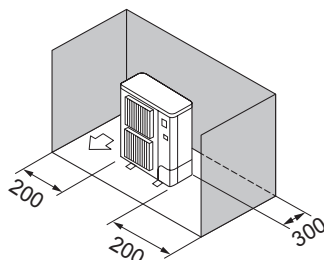

Fig. 2-9
- ③ Solo ostacoli posteriori e laterali (Fig. 2-9)